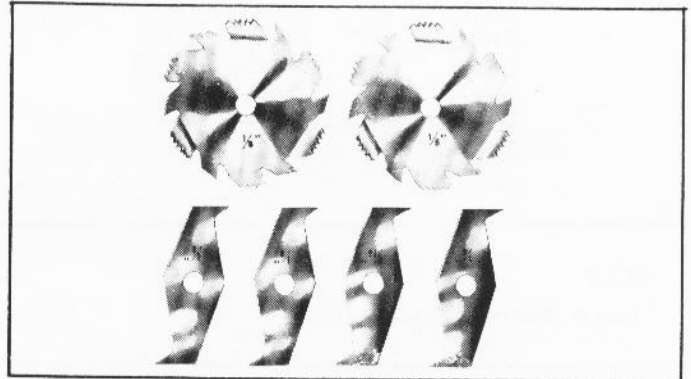
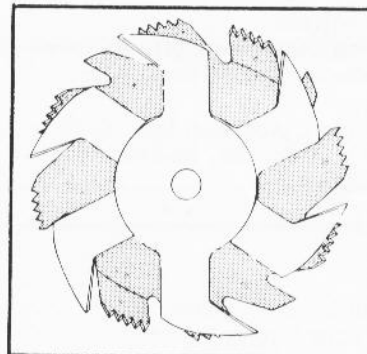
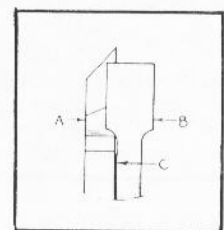

Fig. 32
Fig. 33
Fig. 34
Dadoing is cutting a rabbet or a wide groove into the work. Most dado head sets are made up of two outside saws and four or five inside cutters, as shown in Fig. 32. Various combinations of saws and cutters are used to cut grooves from 1/8" to 13/16" for use in shelving, making joints, tenoning, grooving, etc. The cutters are heavily swaged and must be arranged so that this heavy portion falls in the gullets of the outside saws, as shown in Fig. 33. The saw and cutter overlap is shown in Fig. 34, (A) being the outside saw, (B) and inside cutter, and (C) a paper washer or washers which can be used as needed to control the exact width of groove. A 1/4" groove is cut by using the two outside saws. The teeth of the saws should be positioned so that the raker on one saw is beside the cutting teeth on the other saw.